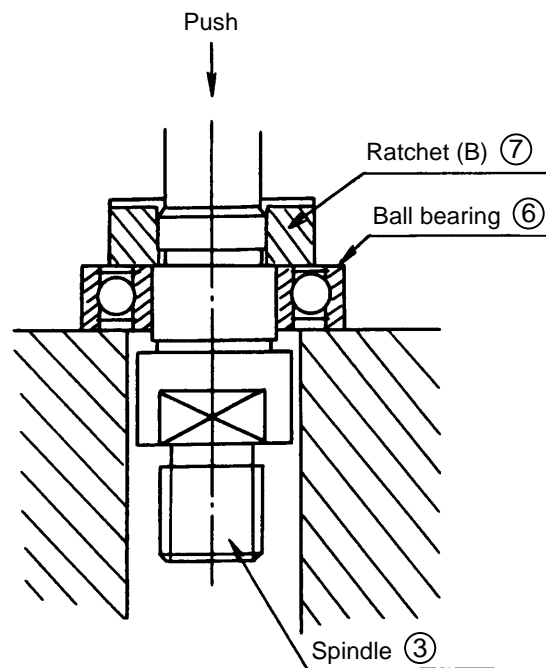

Fig. 6
Pull out ratchet (B) ⑦ using a jig like the one shown in Fig. 6.